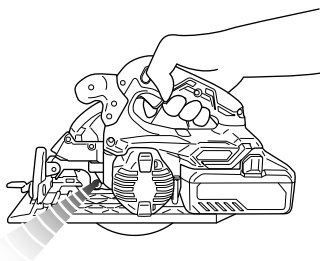

Fig. 27
7. LED light warning signals (Fig. 27)